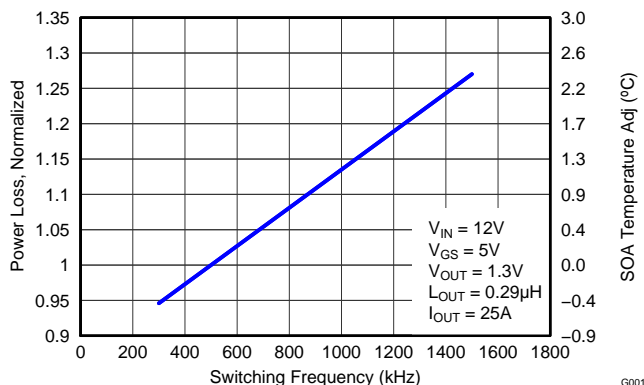

Figure 5. Normalized Power Loss vs Switching Frequency
- Normalized Power Loss for switching frequency \approx 1.08 (Figure 5)
- SOA adjustment for switching frequency \approx 0.7°C (Figure 5)